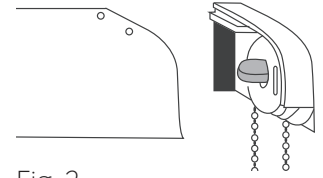

Fig. 2
- Slide the valance into the Valance Brackets (fig. 2).